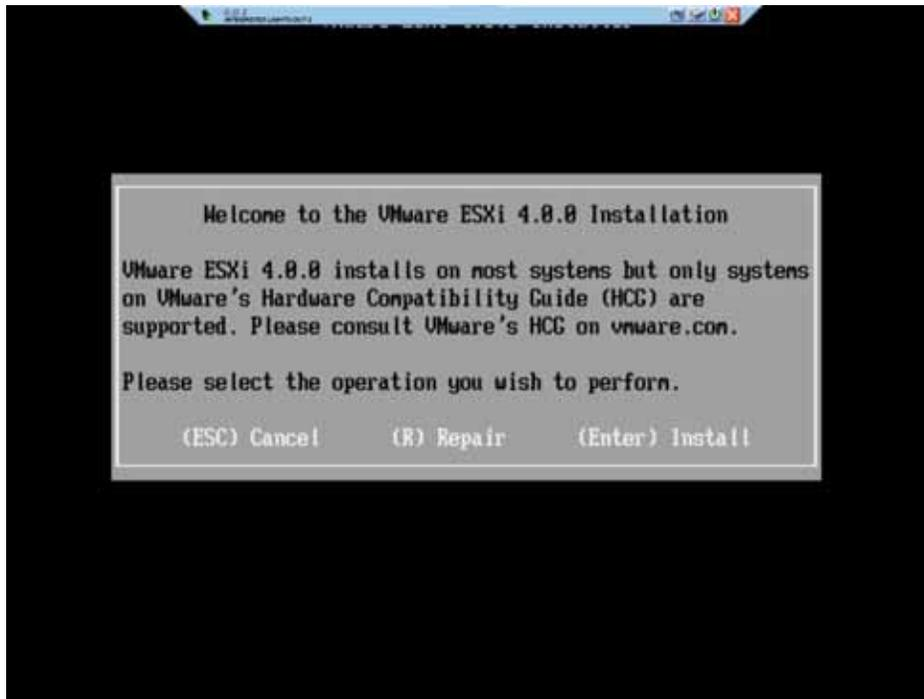

Figure 16 ESXi 4.1 Installer
- Step 4 Accept (or Decline) the license agreement as needed. To continue the installation procedure, accept the license agreement and start the ESXi 4.1 installer. Figure 16 on page 93 shows the ESXi 4.1 installer.